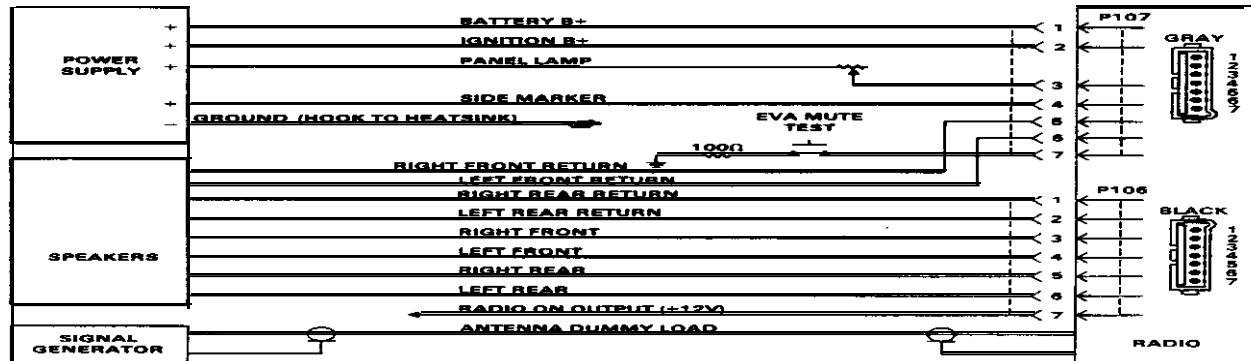

FIGURE 1-2. RADIO CONNECTION TO TEST SET-UP
1. Radio Polarity - The positive outputs of the power supply must be connected to the radio as shown in Figure 1-2. The radio will not operate properly if connected otherwise.